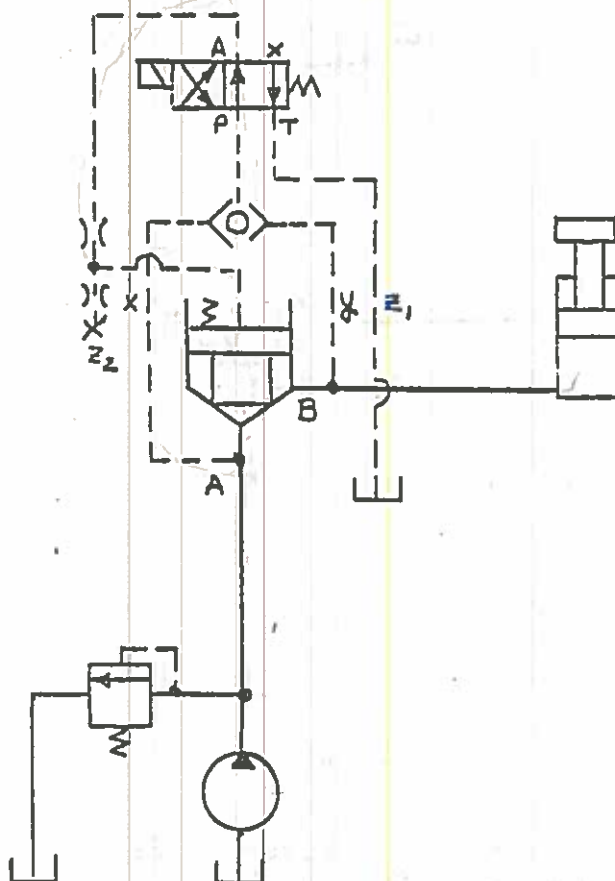

Figure 6
19. In Figure 6 with the pump running and the directional valve in the spring offset position the: